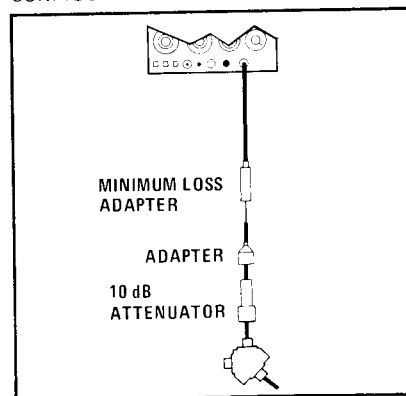

Figure 5-3. Flatness Adjustment Test Setup
2. Connect equipment as shown in Figure 5-3.